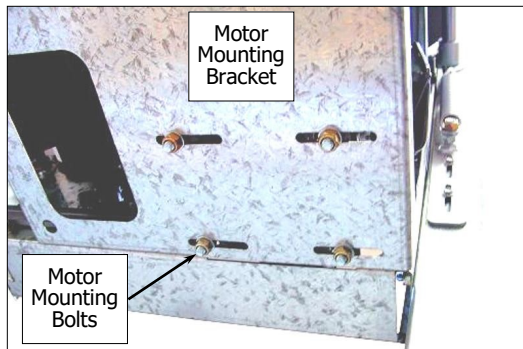

Figure 6.3.1b
- 3) Undo four bolts securing motor to mounting plate. Refer to Figure 6.3.1b.